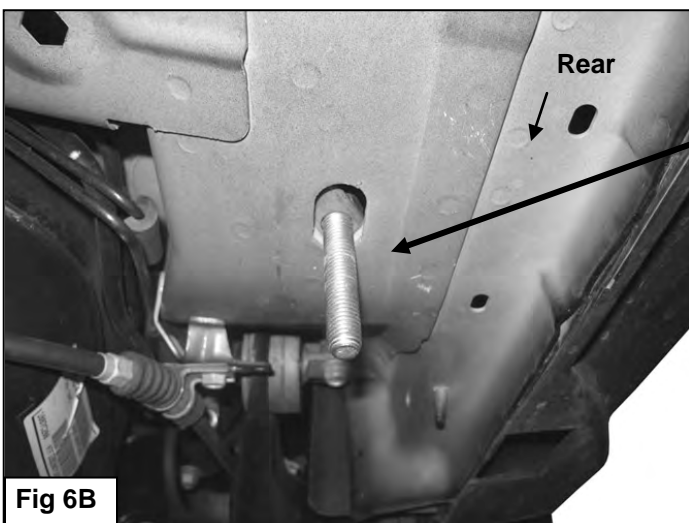

Fig 6B
5. Move along the side of the vehicle toward the rear. Locate the large oval slot in the floor panel. Insert (1) 12mm x 60mm Long Bolt Plate into the slot, **(Figure 6A)**. **NOTE:** Rotate the Bolt Plate so that the plate is across, not inline with the oval hole, **(Figure 6B)**.